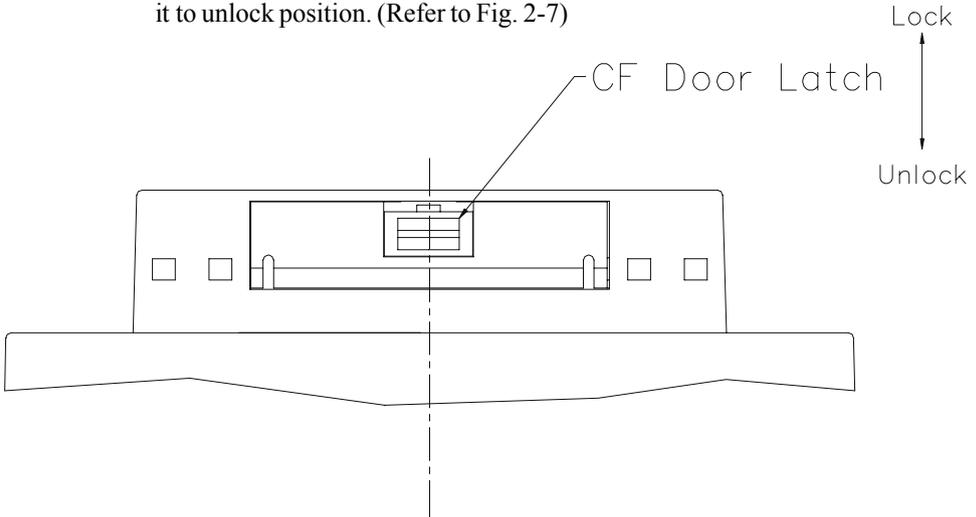

Figure 2-7: CompactFlash™ shielding door
1. Check the CompactFlash™ shielding door latch. If it is locked, slide it to unlock position. (Refer to Fig. 2-7)